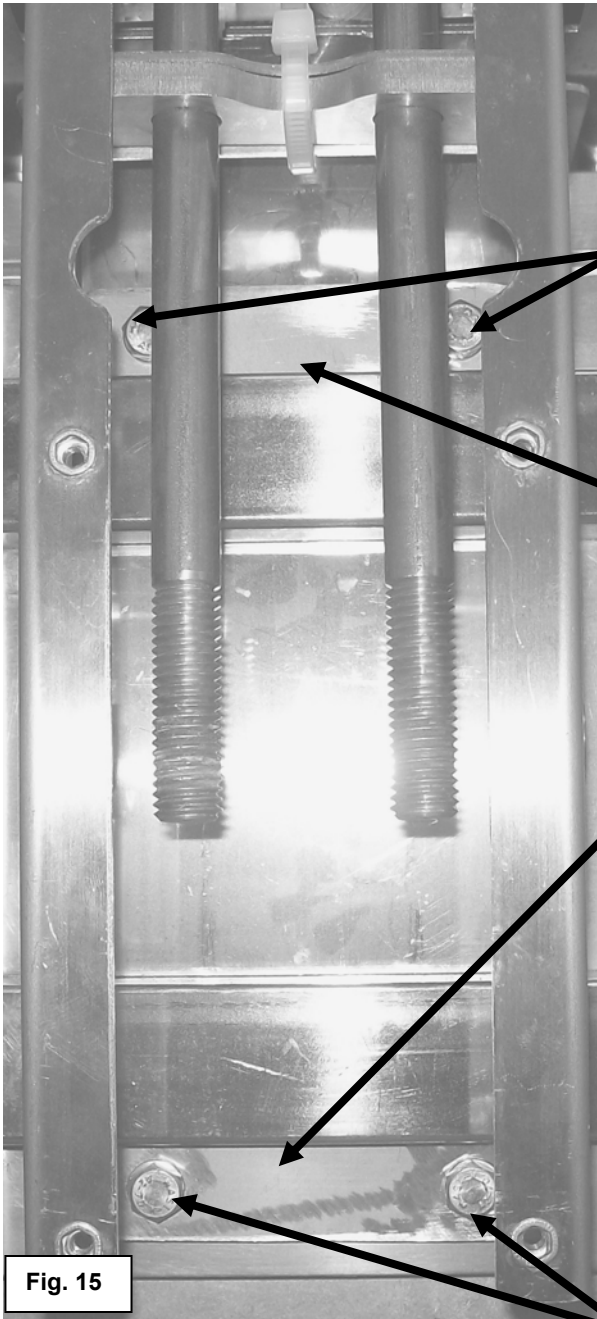

**Fig. 14**
16. Check that the flue deflector has been installed as shown in Fig. 14 before proceeding.